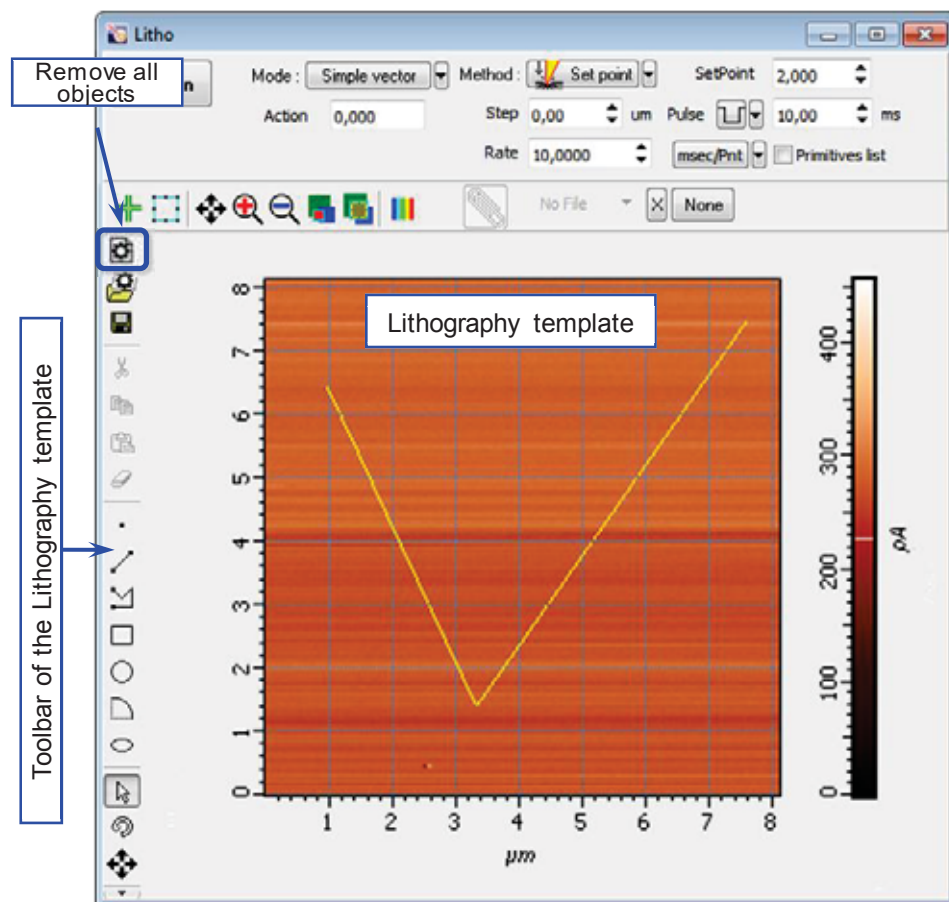

Fig. 13-40. Example of the lithography template
1. Create a new lithography template. To this purpose, click the  button in the Toolbar of the Lithography template (Fig. 13-40). This will remove all objects created before. This step is required to prevent any object outside the selected region to appear in the final template.